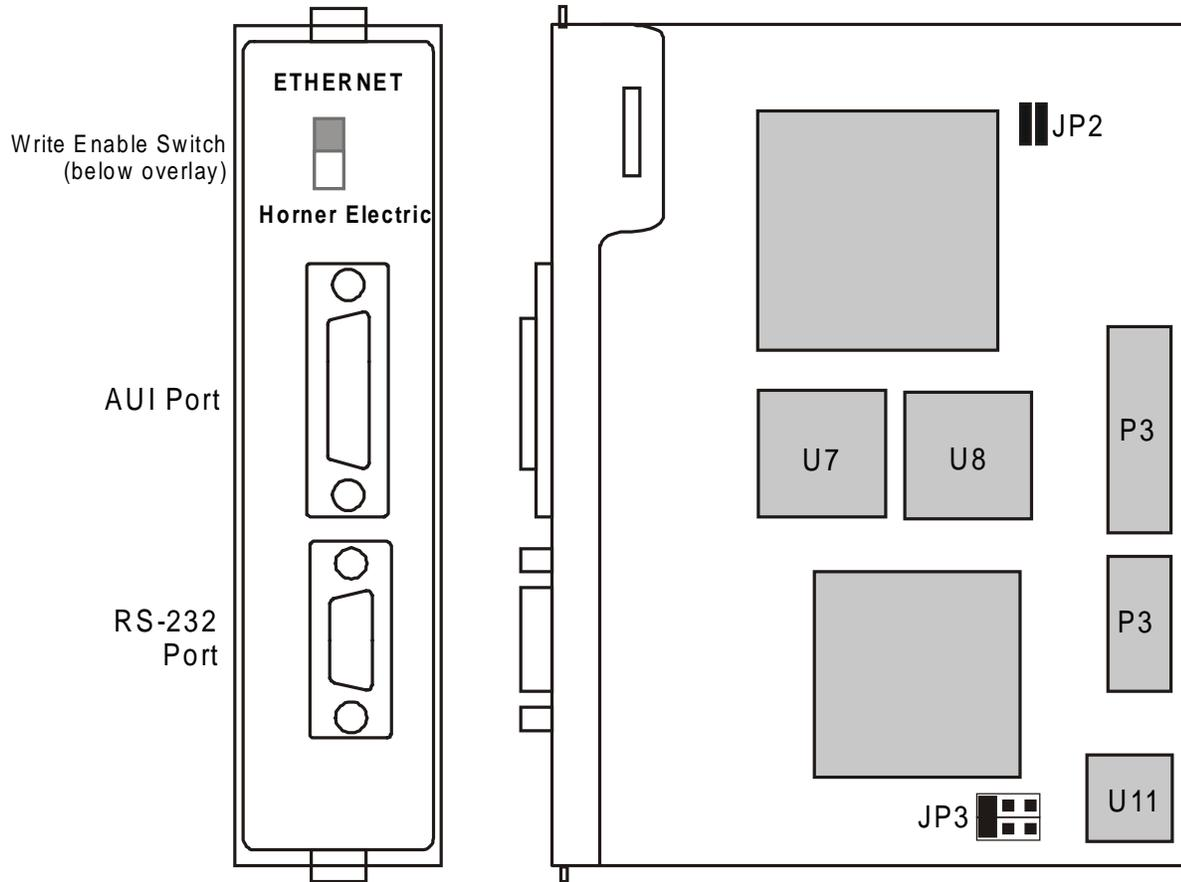

Figure 3.1 – Jumpers/Plugs
3.2 Port Connections (See Figure 3.1.)